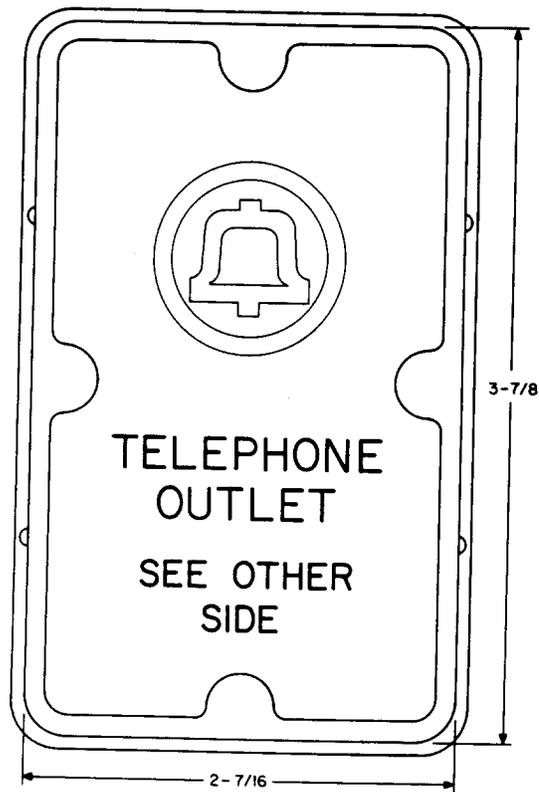

Fig. 2—Protective Cover for 800A Station Wire Box
- (a) Prewire box protective cover (temporary protective cover) Fig. 2